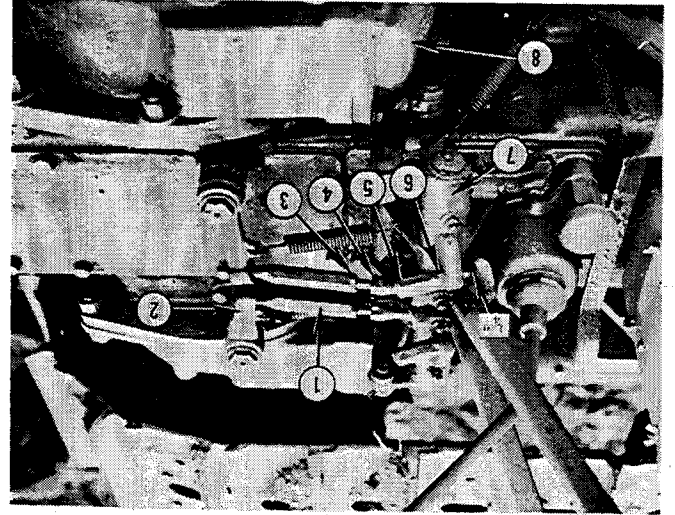

Fig. 4 — STEERING LINKAGE ADJUSTMENT
Adjust steering clutch linkage, No. 1, Fig. 4, to provide for 5/8 to 7/8 inch lever free travel measured at instrument panel height.
To adjust free travel, loosen locknut, No. 3, Fig. 4, and shorten or lengthen steering clutch control linkage by turning adjuster accordingly. Secure adjuster with locknut.
3. With steering lever held in the exact position outlined in step 2, adjust the brake lever "adjuster" to provide for 1/4" clearance between the "adjuster" and pick-up lug on steering lever. See Fig. 4. Use a 1/4" gauge. A 1/4" thick end wrench may be used as a gauge.